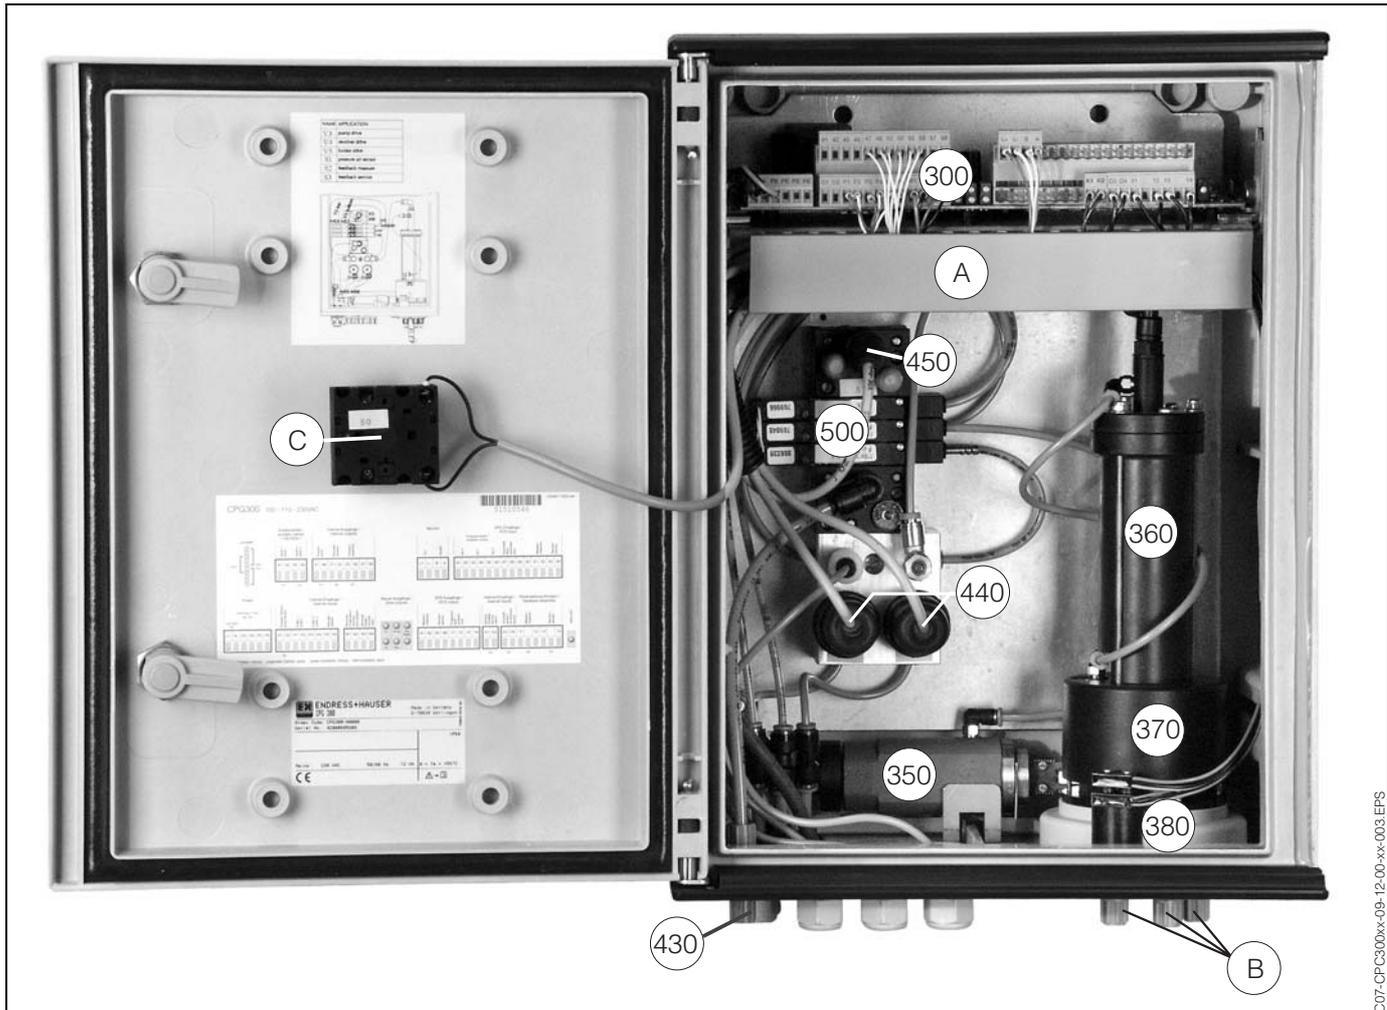

fig. 40: Complete view of CPG 300 housing
- Position of the fuse holder: "A" in fig. 40.